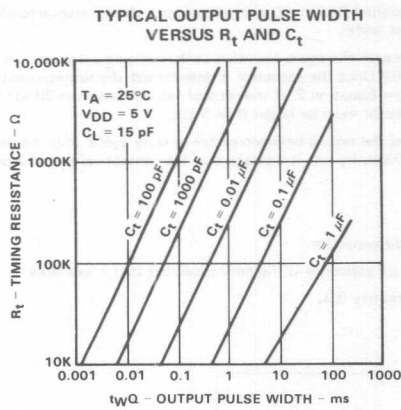
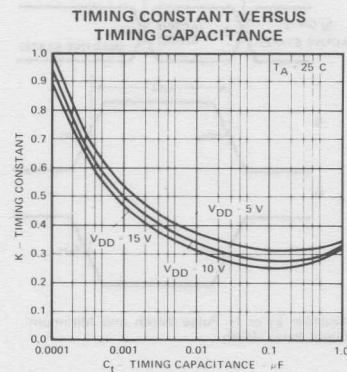

FIGURE 1.
Fig. 3.
3. Polarized capacitors may be used directly. The (+) terminal of a polarized capacitor is connected to pin 2 (14) and the (-) terminal to pin 1 (15). Pin 2 (14) will remain positive with respect to pin 1 (15).
4. The output pulse width can be determined from the pulse width versus C_t or R_t graphs (Figures 1 and 2).
The first step is to choose a capacitor. Figure 1 shows pulse width versus resistor value with the capacitor value as the running parameter. A capacitor value is chosen so that the approximate resistor value is between 20 k Ω and 2 M Ω . Once the capacitor is determined, the timing constant (K) is found from Figure 3 for a specific V_{DD} . The resistor value is then determined from Equation 2. If the resistor value is less than 20 k Ω the timing constant should be increased by 20% and the resistor value re-calculated. The resistor must be larger than 5 k Ω .
From Figure 1 a capacitor value between 0.01 and .1 μ F would be reasonable. A 0.022 μ F capacitor is the only capacitor that is available.
The timing constant for a 0.022 μ F at 10 V V_{DD} is found from Figure 3 to be approximately 0.3.